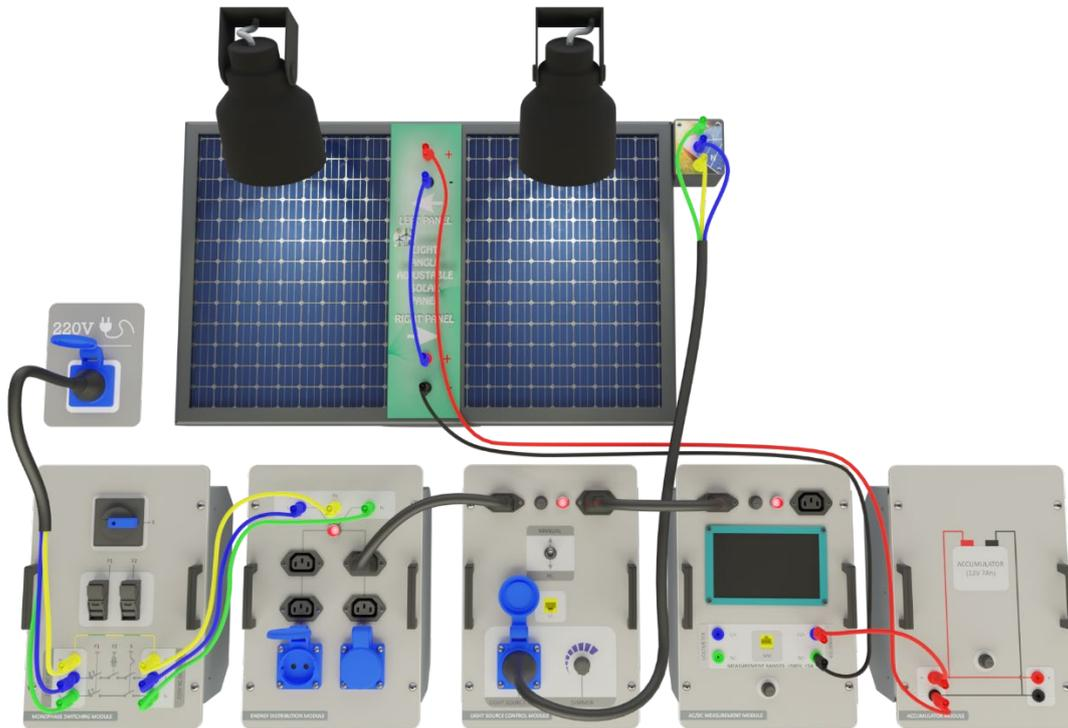

Figure-58. Installation Image of Examination of the Effect of Blocking Diode in Photovoltaic Panels
1. Set up the connection as specified in Figure-58. Ensure a constant level of light in the laboratory by creating an average scenario. Any alterations to the positions of the lamps or curtains will have an impact on the experimental outcomes.